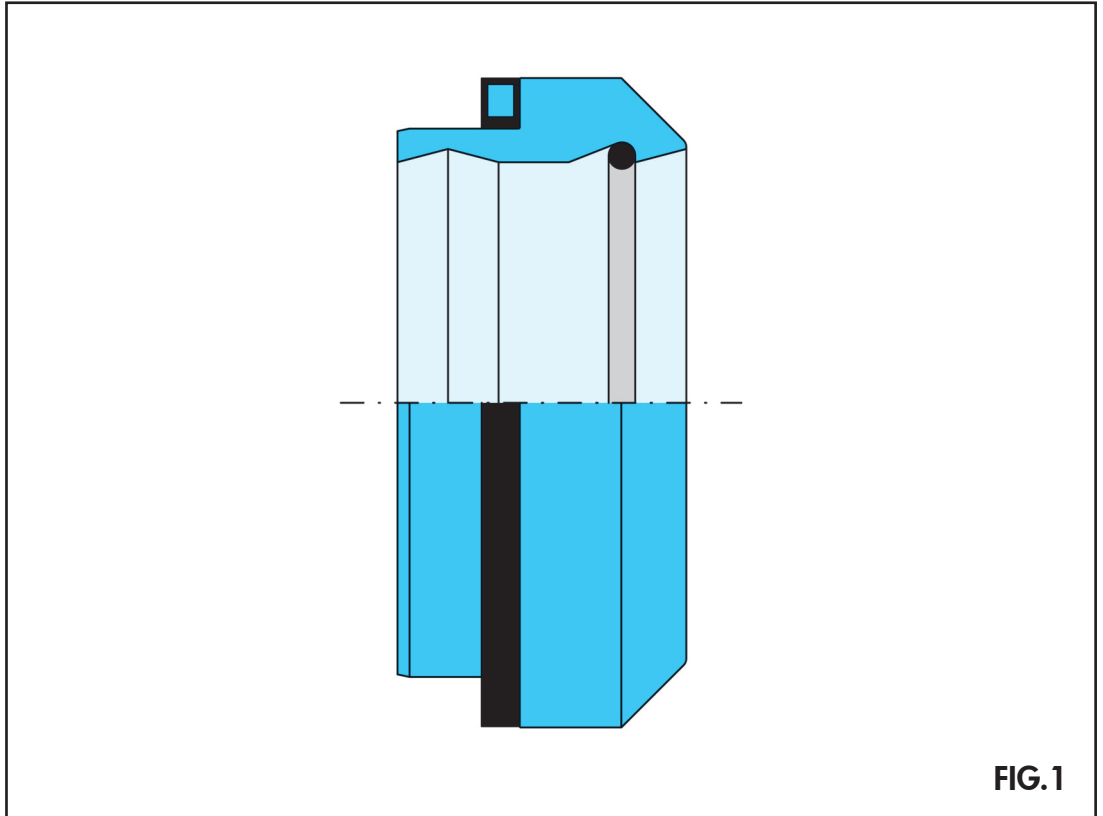

FIG.1
The new clamping ring AR3/C (Figure 1), has been designed and developed by RASTELLI RACCORDI with the aim of offering to the market a specific, simplified product that is now available together with ring AR3, the version manufactured in stainless steel only, of which it keeps the following basic characteristics:
The clamping ring AR3/C (Figure 1) was conceived, designed and tested on the basis of check and control methods applied in the development of new products according to a FLOW CHART defined in the ISO 9001 CERTIFICATION, that RASTELLI RACCORDI has implemented in its company structure.
- b.1) Minimum length of the straight tube in elbows: at least twice the height of the nut TN81 (H). (Figure 1)